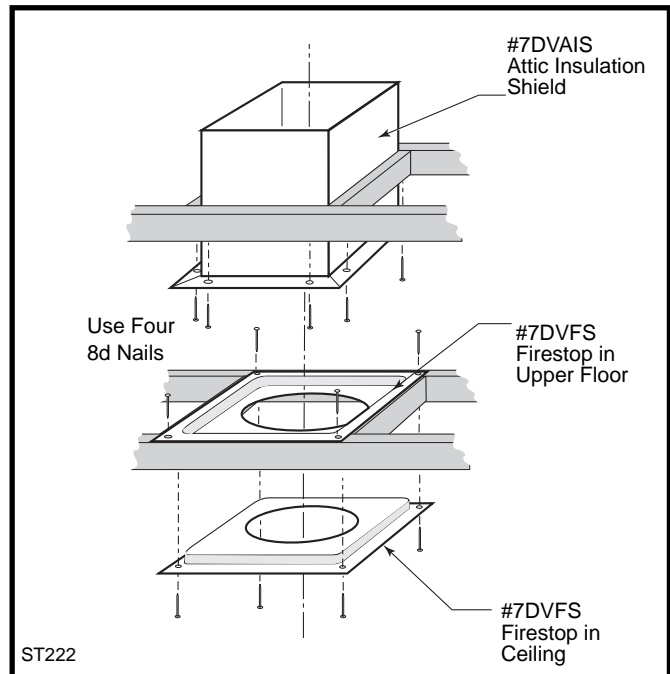

Fig. 36 Install firestops and attic insulation shield.
6. Install firestop(s) #7DVFS and Attic Insulation Shield #7DVAIS as needed. (Fig. 36) If there is a room above ceiling level, a firestop must be installed on both the bottom and top sides of the ceiling joists. If an attic is above ceiling level, an attic insulation shield must be installed.